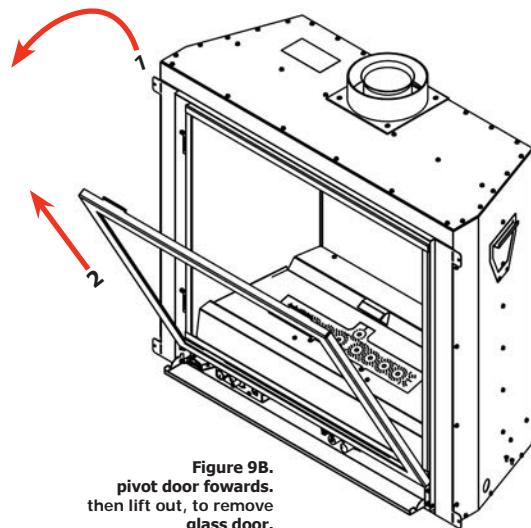

Figure 9B.
Step 3. Once released, pivot the door forward and pull it out of the bottom door retainers. The door must be angled in order for it to pull out. Fig.9B